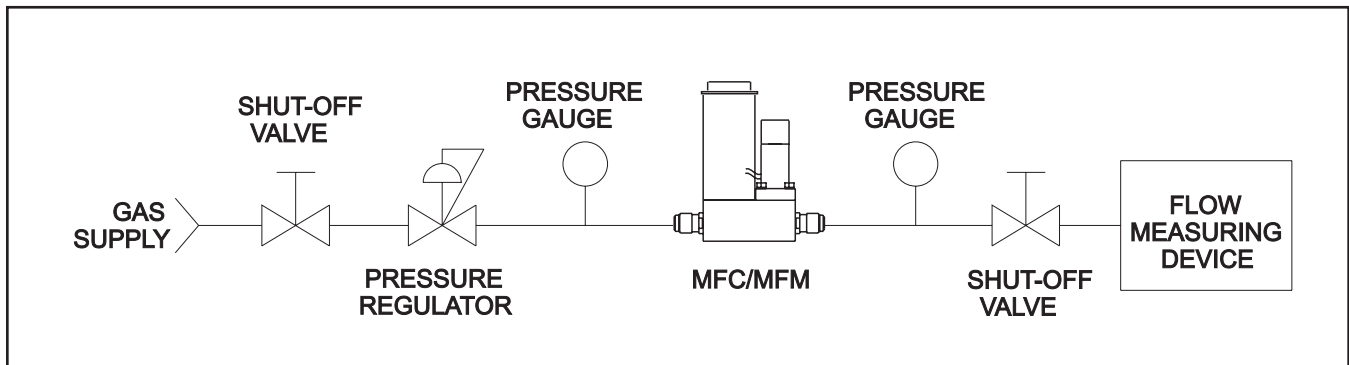

Figure 4-1 Bench Troubleshooting Circuit
1. Establish a proper connection between the Brooks SLAMf Digital Series Mass Flow Meter or Controller (using Figure 4-1 as a reference). Switch on the power and allow the instrument to warm-up for 45 minutes. In case of a controller model, adjust the setpoint to zero. Do not connect the device to a gas source yet. Observe the output signal and, if necessary, perform the zero adjustment procedure (See Section 3, Zeroing Function Zeroing). If the output signal does not zero properly, please contact Brooks Instrument. Confirm these I/O settings are correct.